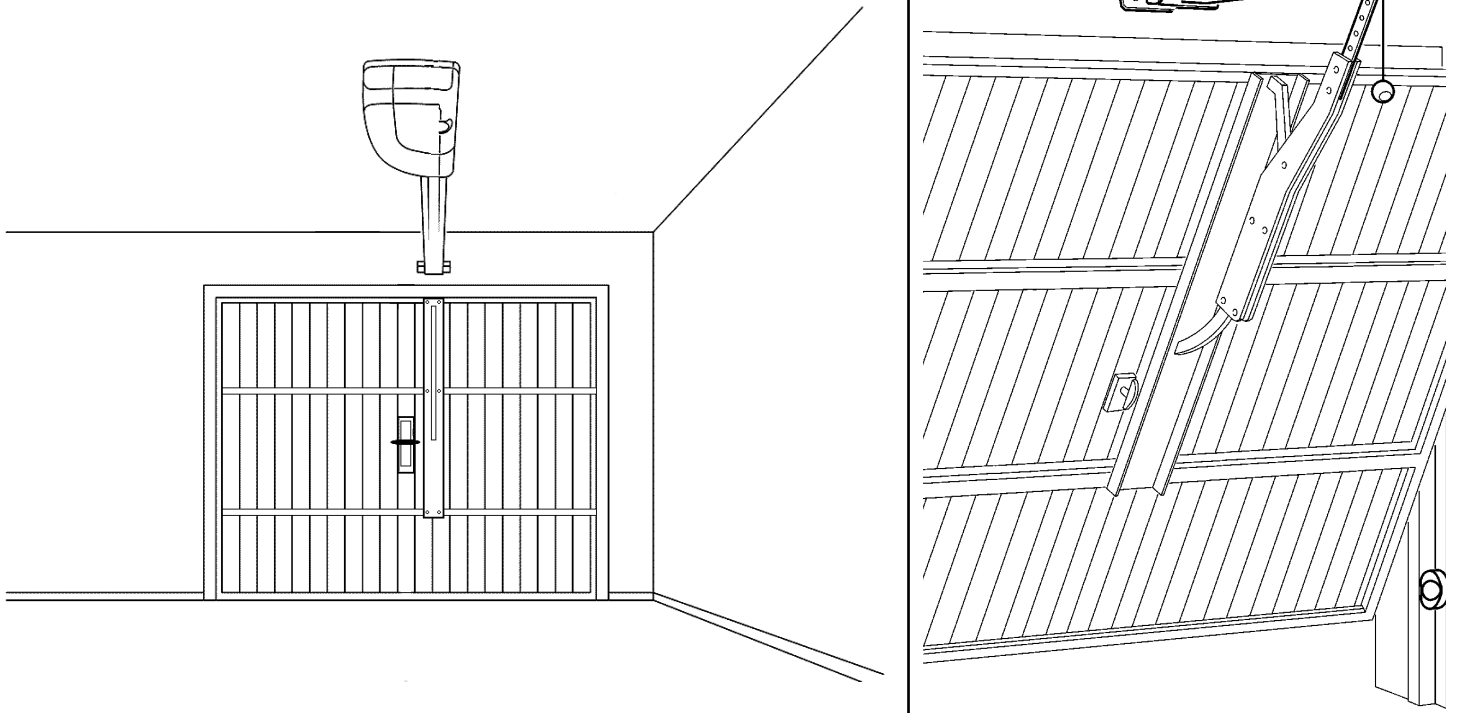

Figure 11
- The gearmotor should be mounted so that it coincides with the centre of the door, or is slightly off-centre, e.g. in order to mount the OSCILLATING ARM next to the handle (Figure 11).
If the door to be automated is an up-and-over type door with springs or counterweights, it will be necessary to install an GA1 OSCILLATING ARM, which must be mounted next to the handle (Figure 11).